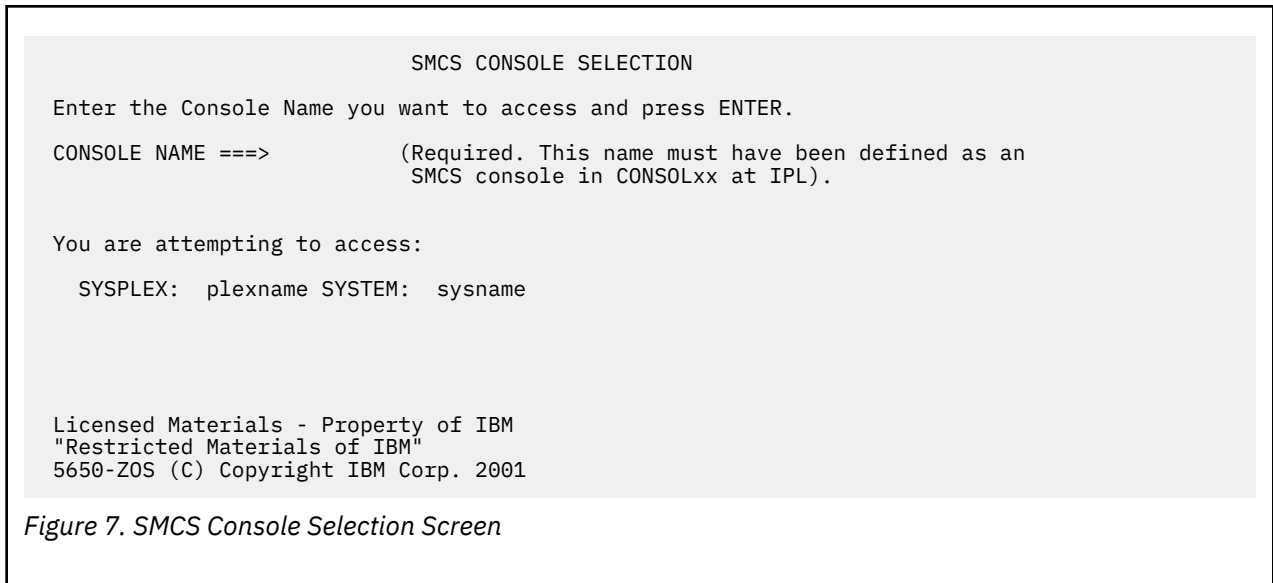

Figure 7. SMCS Console Selection Screen
2. Log on to the SMCS application, which displays an SMCS Console Selection screen. See Figure 7 on page 37.